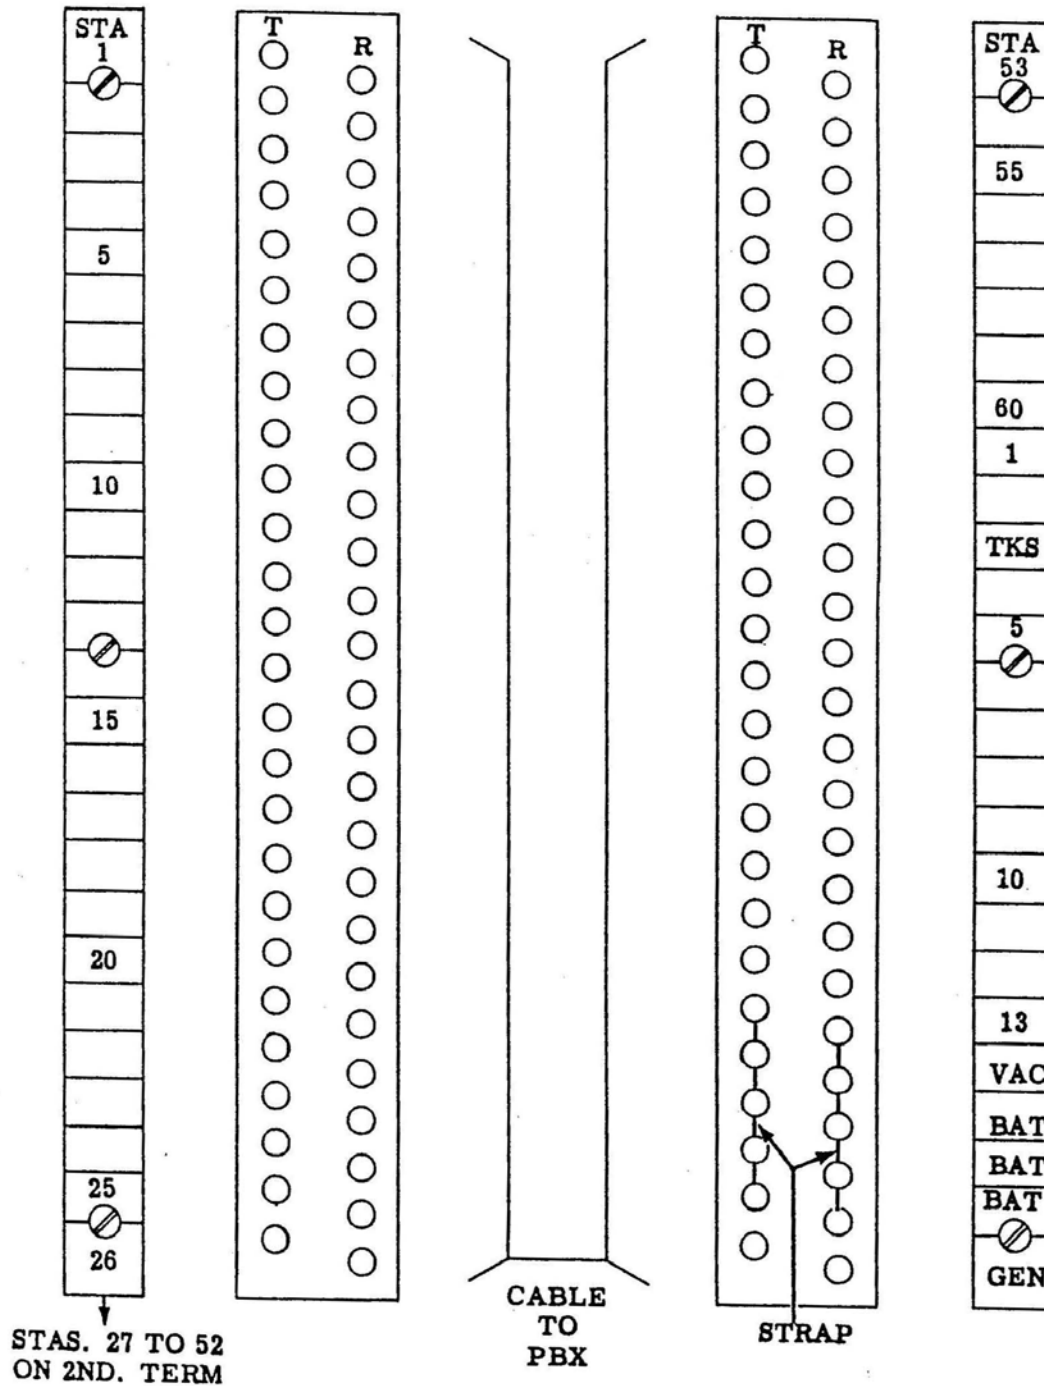

Figure 6. Cross-Connecting Terminal For 60 Line PBX
2.08 The PBX cable may be terminated on connecting blocks, or on binding post chambers located in a floor or wall mounted apparatus cabinet, building terminal box or other suitable location (see Fig. 6). A second method may be used in which case the local or house distributing cable is terminated directly on blocks mounted in the lower rear of the PBX frame. These are then cross-connected to the PBX terminal blocks. Station lines shall appear first, then trunks followed by battery and ground. The last pair of the cable is generally used for generator.